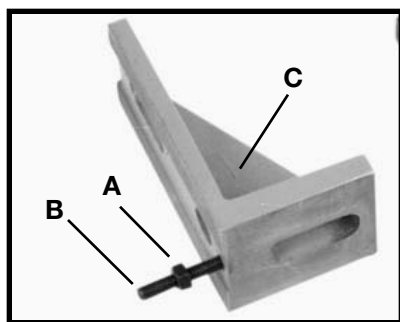

Fig. 3
1. Thread M8 Hex Nut (A) Fig. 3 on M8 X 55mm Socket Set screw (B).
NOTE: Do not install (A) or (B) Fig. 3 when using the model 46-715 or the model 46-745. Discard the nuts and set aside the screws for further use. (See "ATTACHING DUPLICATOR TO WOOD LATHE" in this document).
2. Thread the socket set screw (B) Fig. 3 with hex nut (A) into the tapped hole in both mounting brackets (C).